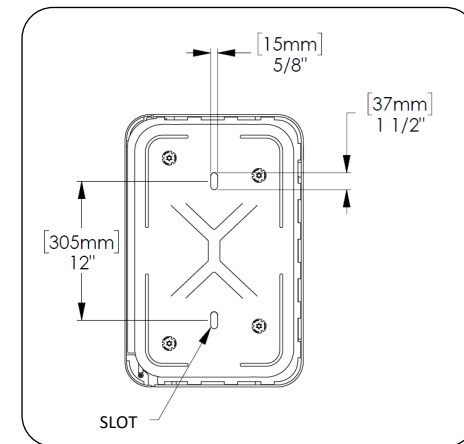

Fig. 1 – Slots for anchoring
2. Mark hole locations using the center of the slots, see Fig. 1.